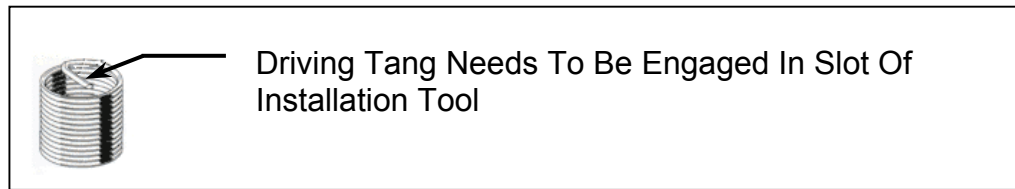

Figure 3 – Heli-Coil Tang
- 6.6** Insertion of the heli-coil is achieved using the appropriate installation tool (supplied in installation kit). The driving tang is engaged in a slot in the tool and pre-wound into the nozzle. (Refer to Figure 3)